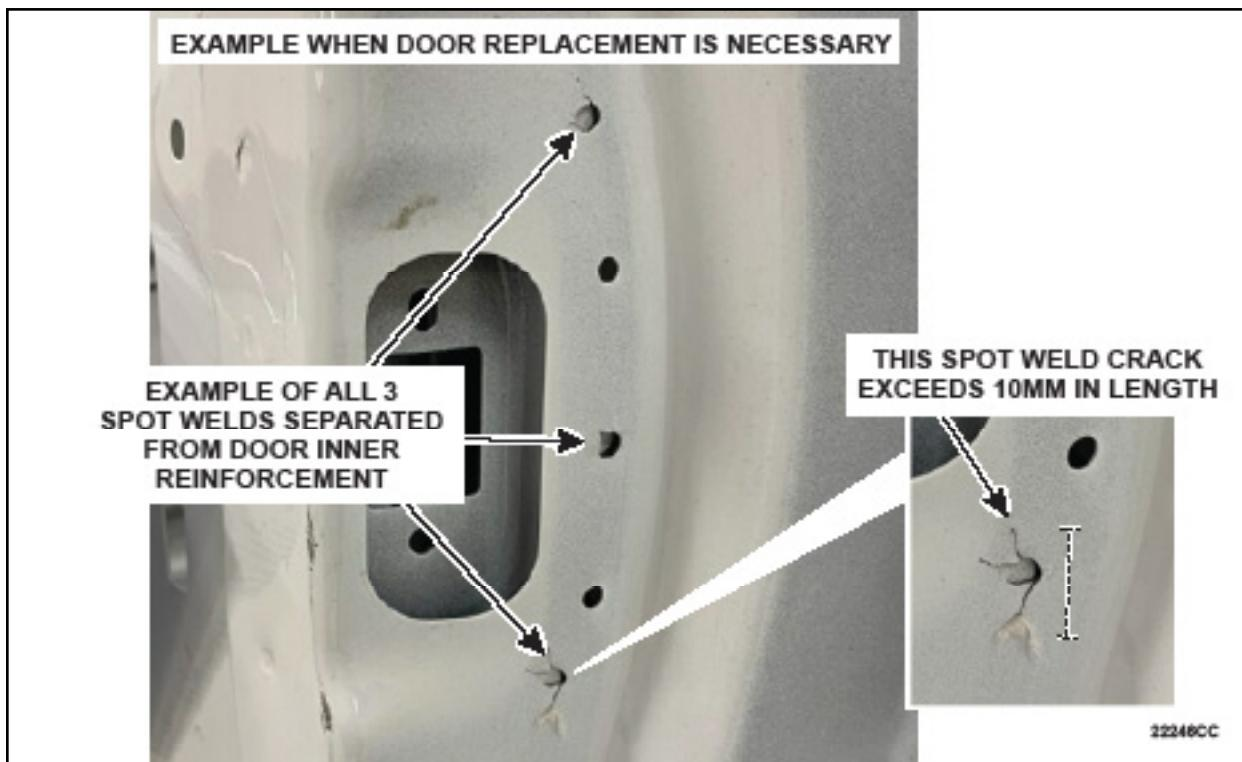

FIGURE 3
4. Inspect the spot welds on each door. Figures 3 and 4 show examples of the various damaged spot welds.
- Upon inspection of the door check arm spot welds on each door, pick the appropriate repair based on the inspection. One (1) of the two (2) repairs must be performed on each front door.